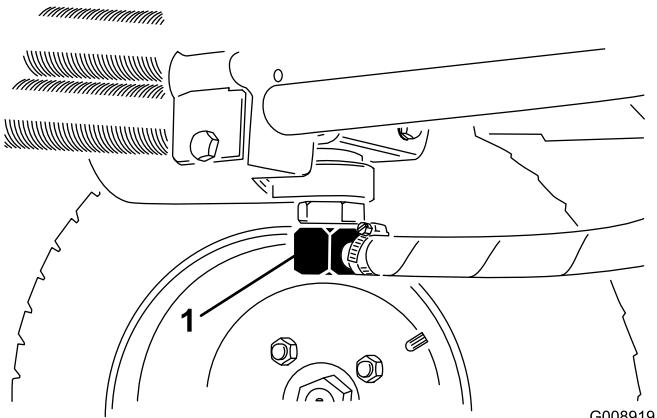
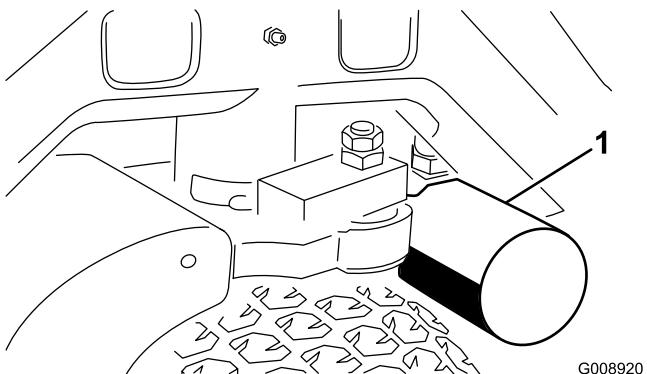

Figure 69
Figure 70
2. Disconnect the hydraulic line (Figure 69) or remove the hydraulic filter (Figure 70) and let the hydraulic fluid flow into a drain pan.
4. Place a drain pan under the filter (Figure 70) and remove the filter.